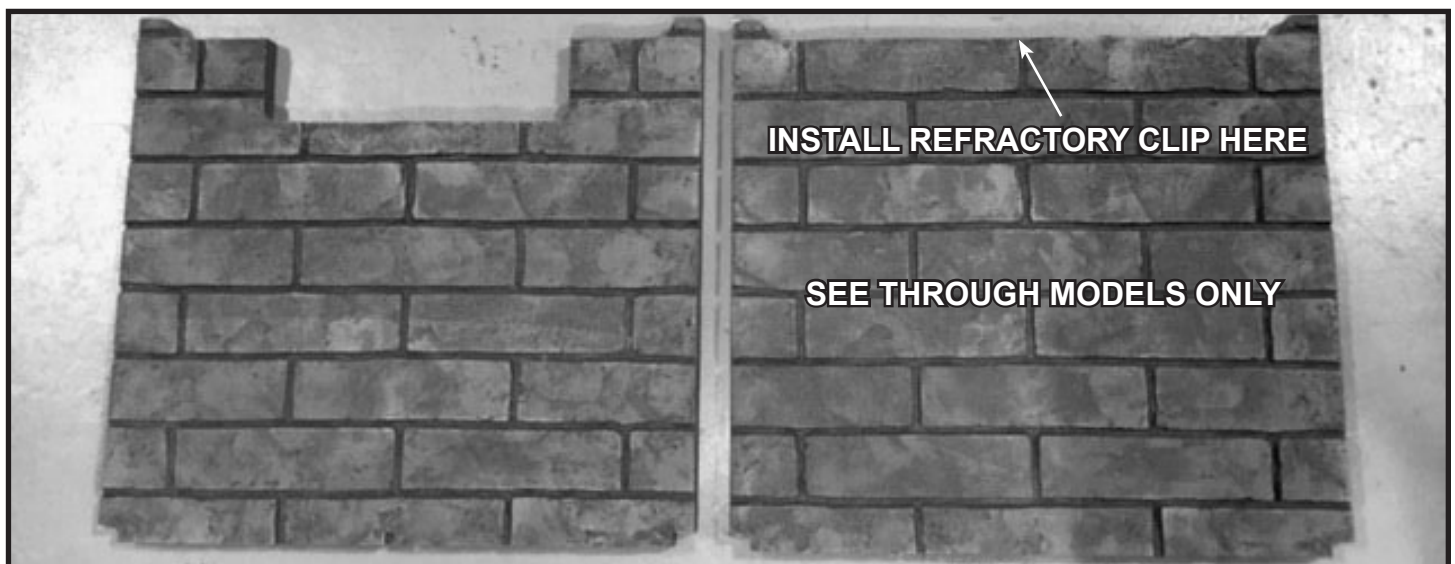

Figure 1. Refractory Kit Components
Refractory (See Figure 1) Pieces vary by model.
7. Repeat steps 3-6 for see through models, if applicable. Note the location of the refractory clip in Figure 1.